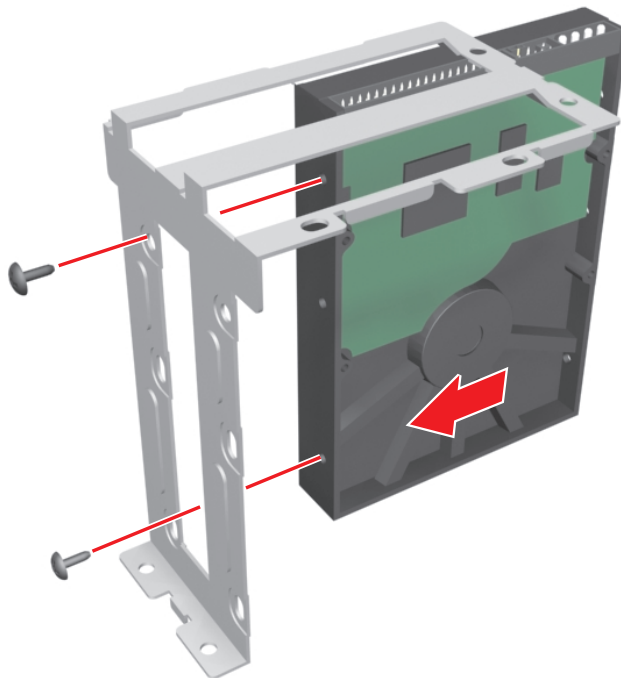

Figure 12. Inserting the New Drive into the Basket
1. Mount the new system drive in the drive basket. Use the drive slot closest to the CD-RW/DVD drive. Refer to Figure 12.